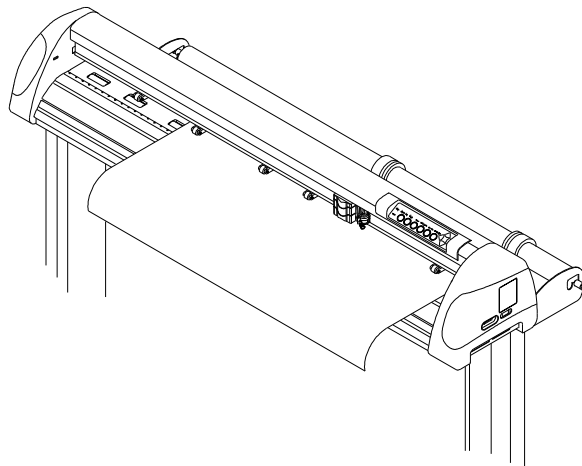

Figure 4-8
3. Loading the media on the platen. After loading the roll media, flatten the media on the platen and hold the front edge of the roll media firmly (Figure 4-8).